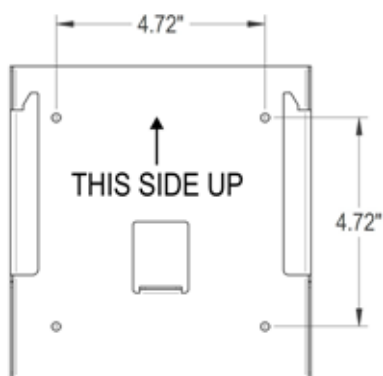

Fig. 6 - Wall mounting bracket
- » Drill four 5/16" holes, 1.75 inches deep, in the wall as shown in Fig. 6;
The bracket must be fitted as in Fig. 6.